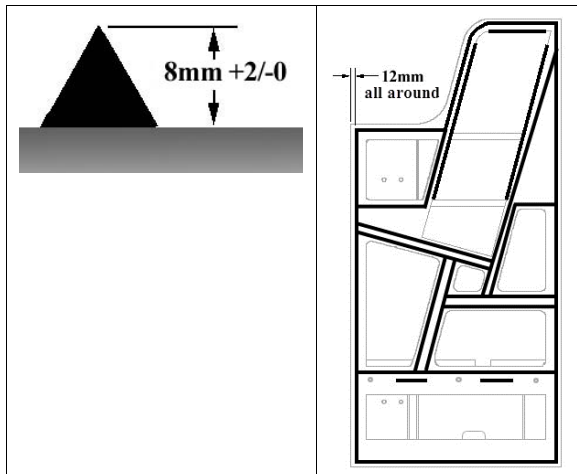

FIGURE 59: GLUE APPLICATION LAYOUT
15. Apply an even coat of glue Teroson MS 9399 onto the door frame following the layout shown in Figure 59.